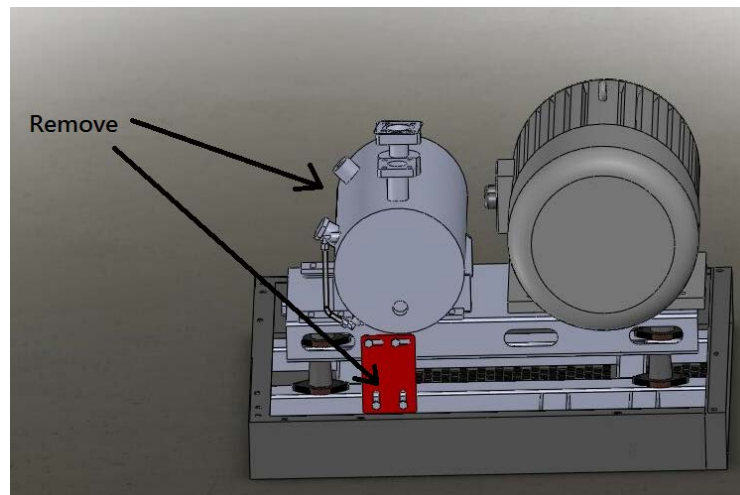

Figure 5-1 Shipping Brackets
- b. Remove the two red shipping brackets attached between the baseframe and baseplate as shown in Figure 5-1.